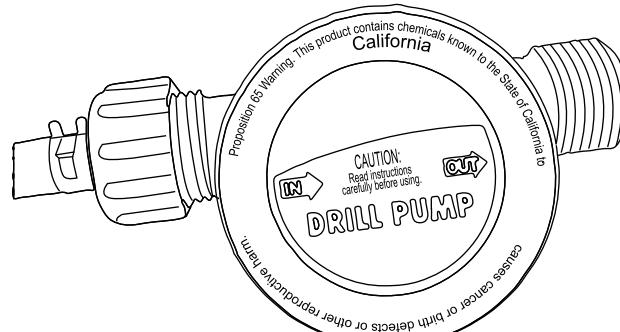

Figure 4-4. Pump Assembly Step 1
- See **Figure 4-4**. Install the ¼ in. Hose Assembly onto the inlet side of the Drill Pump. Twist the fitting clockwise until it is snug. Do not over-tighten.